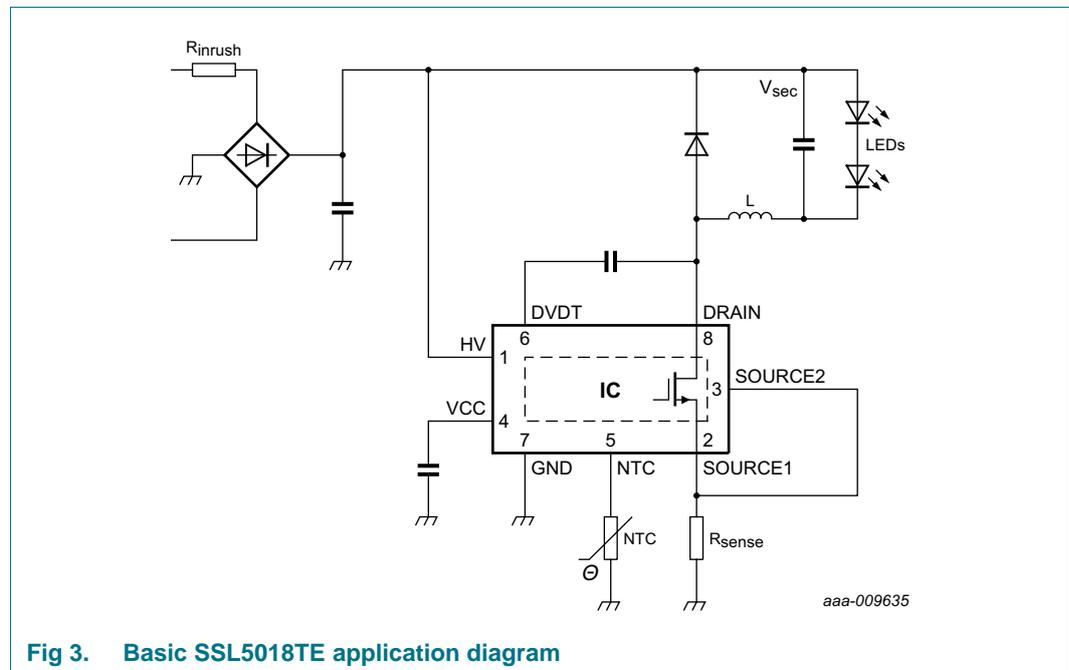
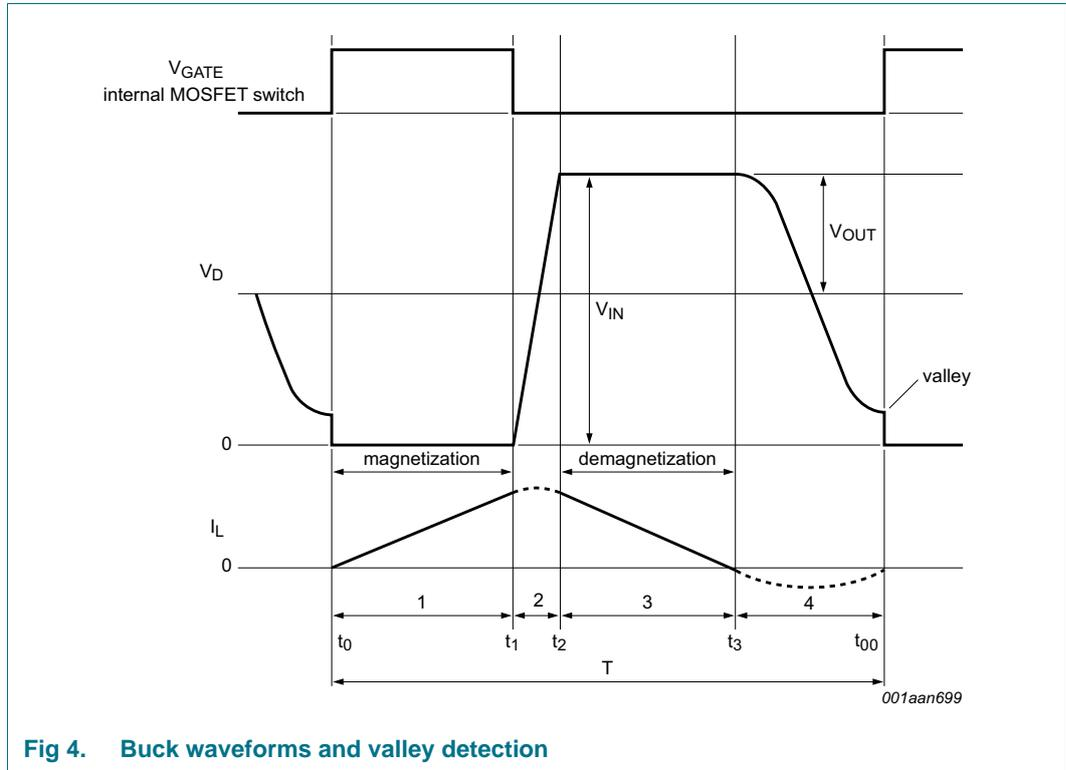

Fig 3. Basic SSL5018TE application diagram
Fig 4. Buck waveforms and valley detection
- Low BOM LED driver solution (see Figure 3):
The converter in the SSL5018TE is a BCM, peak current controlled system. Figure 3 shows the basic application diagram. Figure 4 shows the waveforms. This converter operates at the boundary between continuous and discontinuous modes. Energy is stored in inductor L when the MOSFET is switched on. The inductor current I_L is zero when the internal MOSFET is switched on at t_0 . Thereafter, the amplitude of the current builds up in L proportionally with $V_{IN} - V_{OUT}$ and the time that the internal MOSFET is on (t_0 to t_1). The peak current sensed at the SOURCE2 pin determines when the MOSFET is switched off. When the internal MOSFET switches off at t_1 , the current flows through the freewheeling diode and the output capacitor (t_2 to t_3). The current then drops at a rate proportional to the value of V_{OUT} . When the inductor current reaches zero, after a short delay (t_3 to t_{00}), a new switching cycle is started when the MOSFET is switched on again.